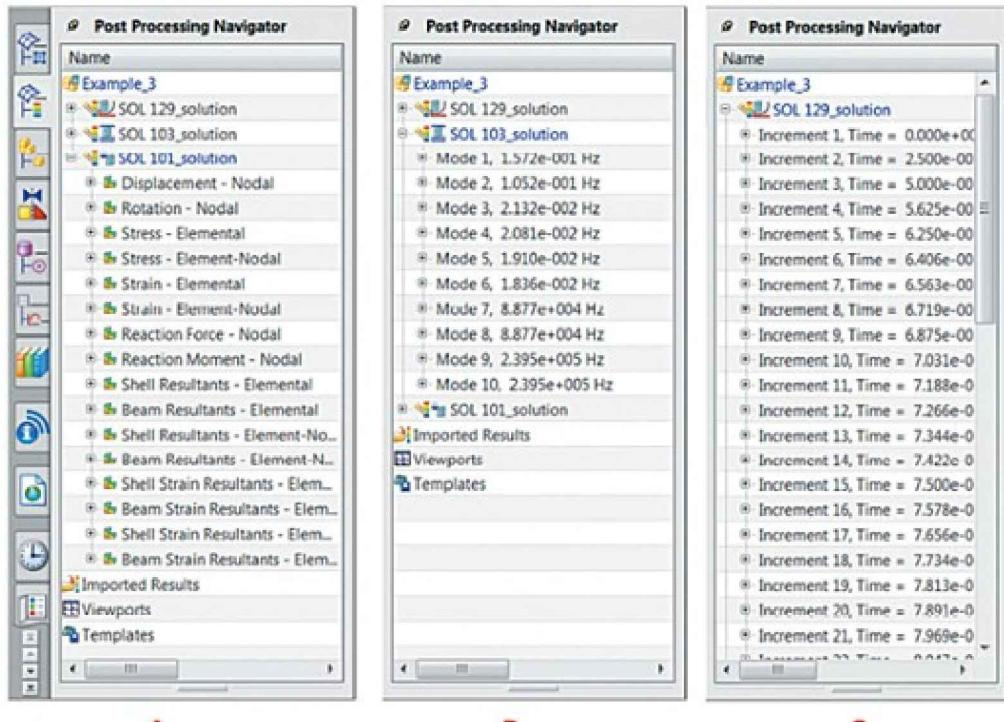

Figure 5.7. Results tree view
- Linear static analysis, solution type **SESTATIC 101** (Figure 5.7, A).
- Finding natural frequencies and modes, solution type **SEMODES 103** (Figure 5.7, B).
- Analysis of nonlinear processes variable in time, solution type **NLTRAN 129** (Figure 5.7, C).